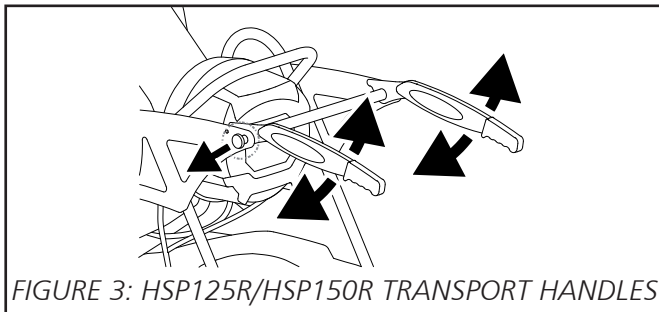

FIGURE 3: HSP125R/HSP150R TRANSPORT HANDLES
- Release the handles from their closed position (pull the locking pins outwards, Figure 3)